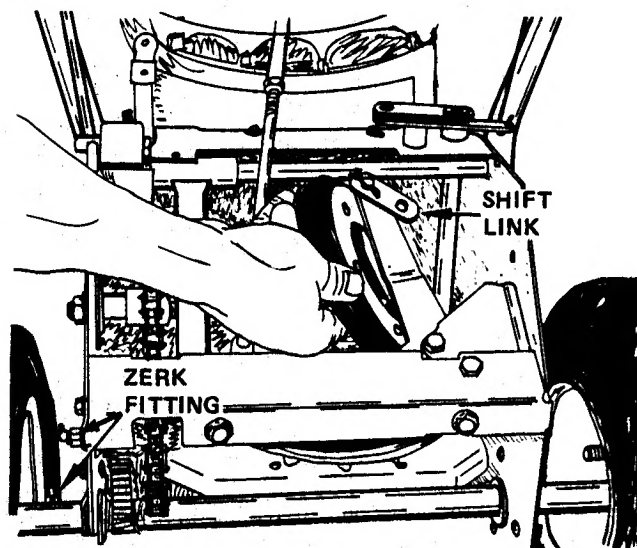

FIGURE 12
2. Place the speed selector in FIRST position. Depress the wheel drive clutch lever to hold the friction wheel while the five bolts securing the friction wheel to the hub are loosened. Remove the five bolts, shift to THIRD position and disconnect the shift link. See Figure 12.